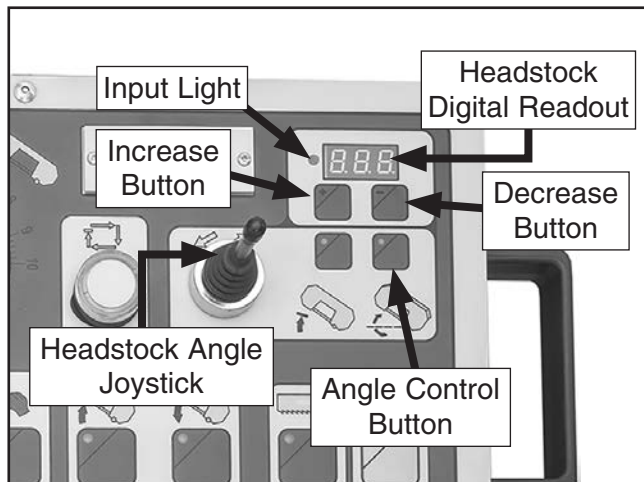

Figure 47. Headstock control section.
4. Press angle control button (🔧) to edit headstock angle setting (see **Figure 47**).
5. Press both headstock increase and decrease buttons and hold them until headstock digital readout changes to zero (see **Figure 47**).
6. Wait until headstock digital readout returns to current angle, then use headstock angle joystick to adjust headstock to 0° (see **Figure 47**).